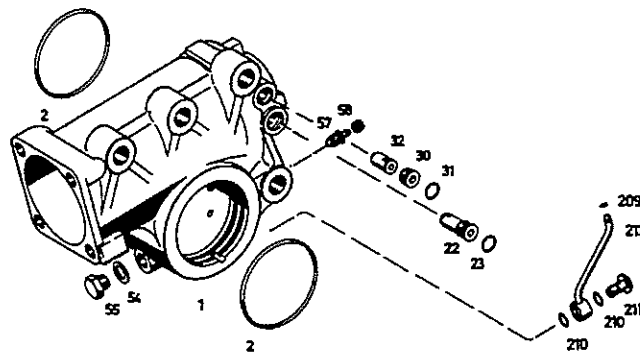

Fig.19
- 1.1 Screw in valve insert (22) - pressure limiting valve - with preassembled O-ring (23) (tightening torque: 30+10 Nm) (**Fig.19**).